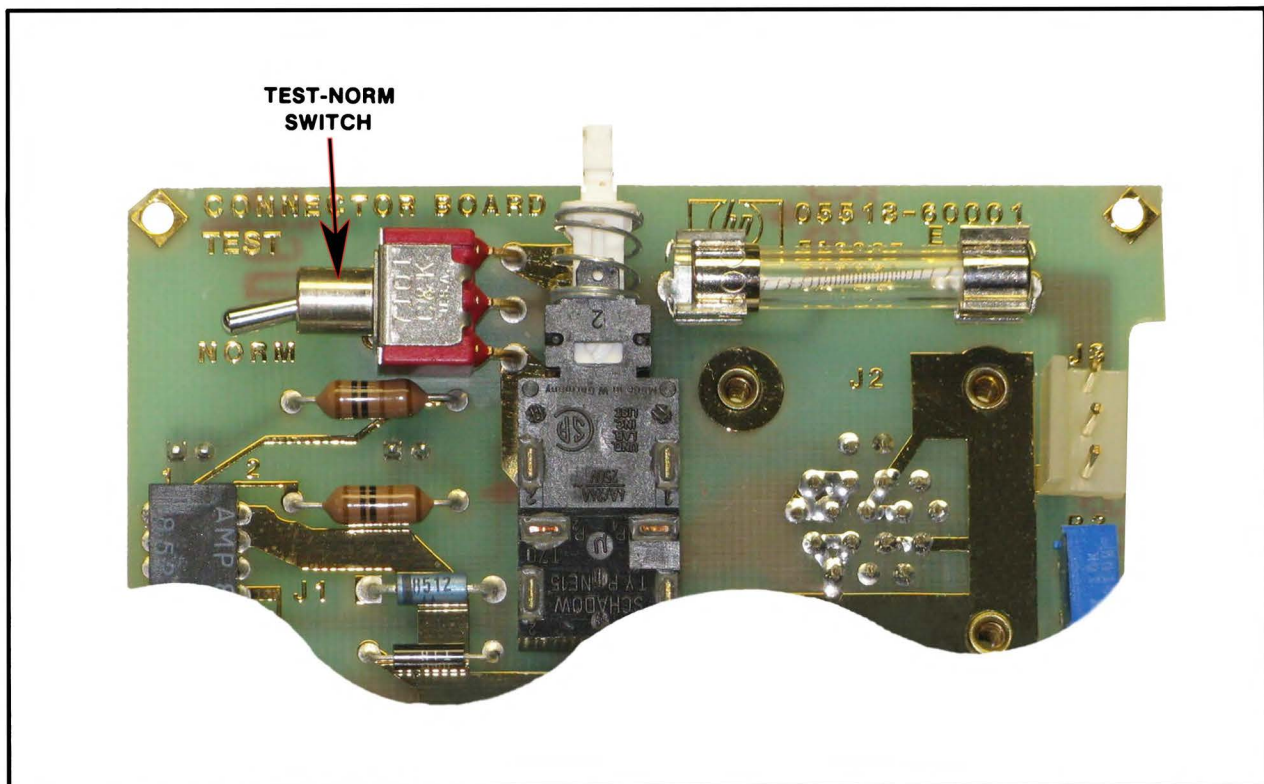

Figure 5-1. 5517A A1 Connector Board, NORM-TEST Switch Location
- c. At the rear of the Laser Head, on Connector Board A1, check that the NORM-TEST switch is set to NORM. See Figure 5-1.
- d. On the A1 Connector Board, set TEST-NORM switch to TEST. See *Figure 5-1*.
- i. Adjust A1R3 (*Figure 5-1*) for 3.5 milliamperes ± 0.1 milliampere. If the current cannot be adjusted to this value see Laser High Voltage Troubleshooting in Section VIII. If the laser power output as measured according to paragraph 4-9, is not greater than 120 microwatts at this current level, the laser assembly may require replacement.